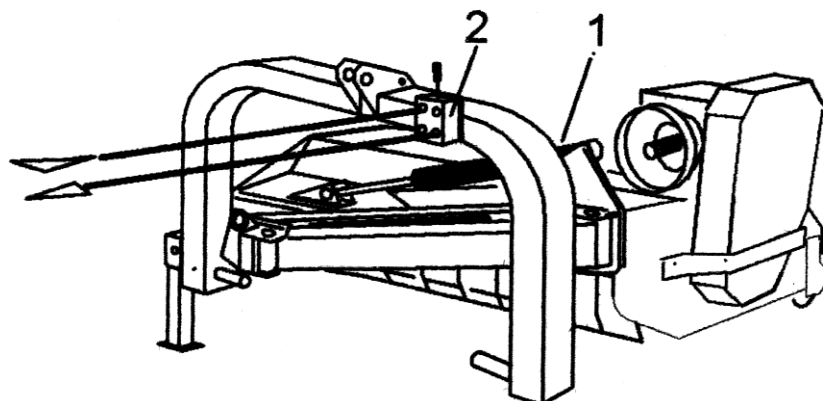

FIG. 26
For tractors equipped with just one pressure tube or when requested by the user, a distributor (2) for ram control can be fitted to the shredder. This is also equipped with a floating position to control the ram (1) (FIG. 26). (When delivering the machine the fitting instructions will be enclosed by our after sales service).